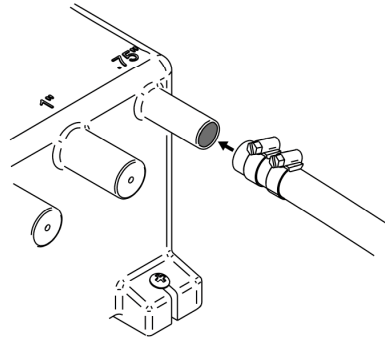

Figure 7 Securing Hose to Tank Port
| Fig. 7      | Securing Hose to Tank Port  |
**Step 3:** Secure all hosing onto the selected ports using appropriate hose clamps, as shown in Figure 7. Check no leaks occur. Do not overtighten hose clamps.